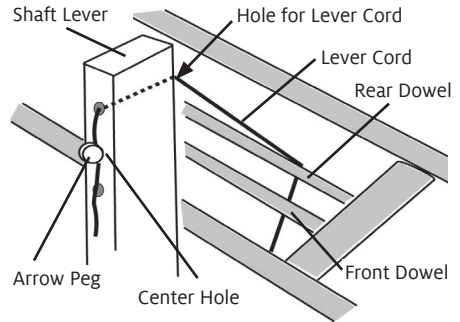
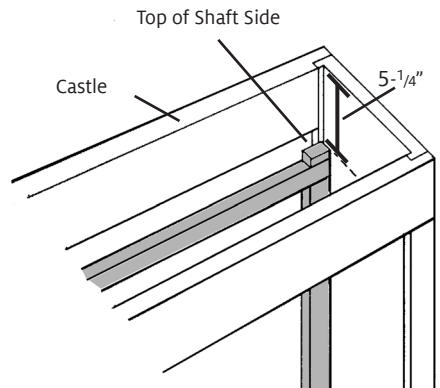

FIGURE 5: LEVERS
FIGURE 6: SHAFTS/CASTLE
9. Attach the lever cords to the levers. Insert the shafts back into the castle up from the bottom. Put the shaft levers in the up position. Insert the lever cord end through the hole in the back of the lever (see Figure 5). You may need a thin tool to push the cord through. Adjust the top of the shaft side to a height of 5¼" below the top of the castle (see Fig. 6). Insert an arrow peg through the hole in the lever cord closest to the center hole on the front of the lever. Secure the arrow peg into the center hole of the lever. Repeat for the remaining shafts.